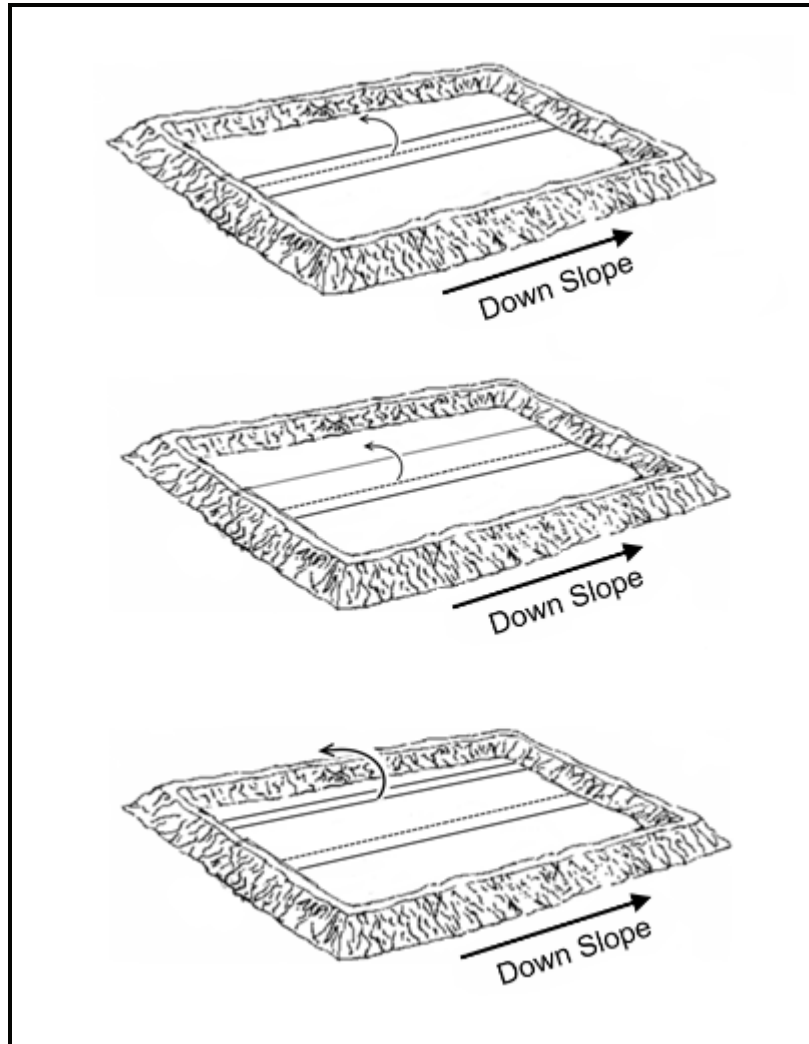

Figure 13. Unfolding the Berm liner.
6. The berm liner is folded symmetrically about its center line. Unfold ONE side (Figure 13) to expose handles along sides of the berm liner.
7. Grasp the handles located along the unfolded side of berm liner, and pull towards and over the side of the berm (Figure 13).